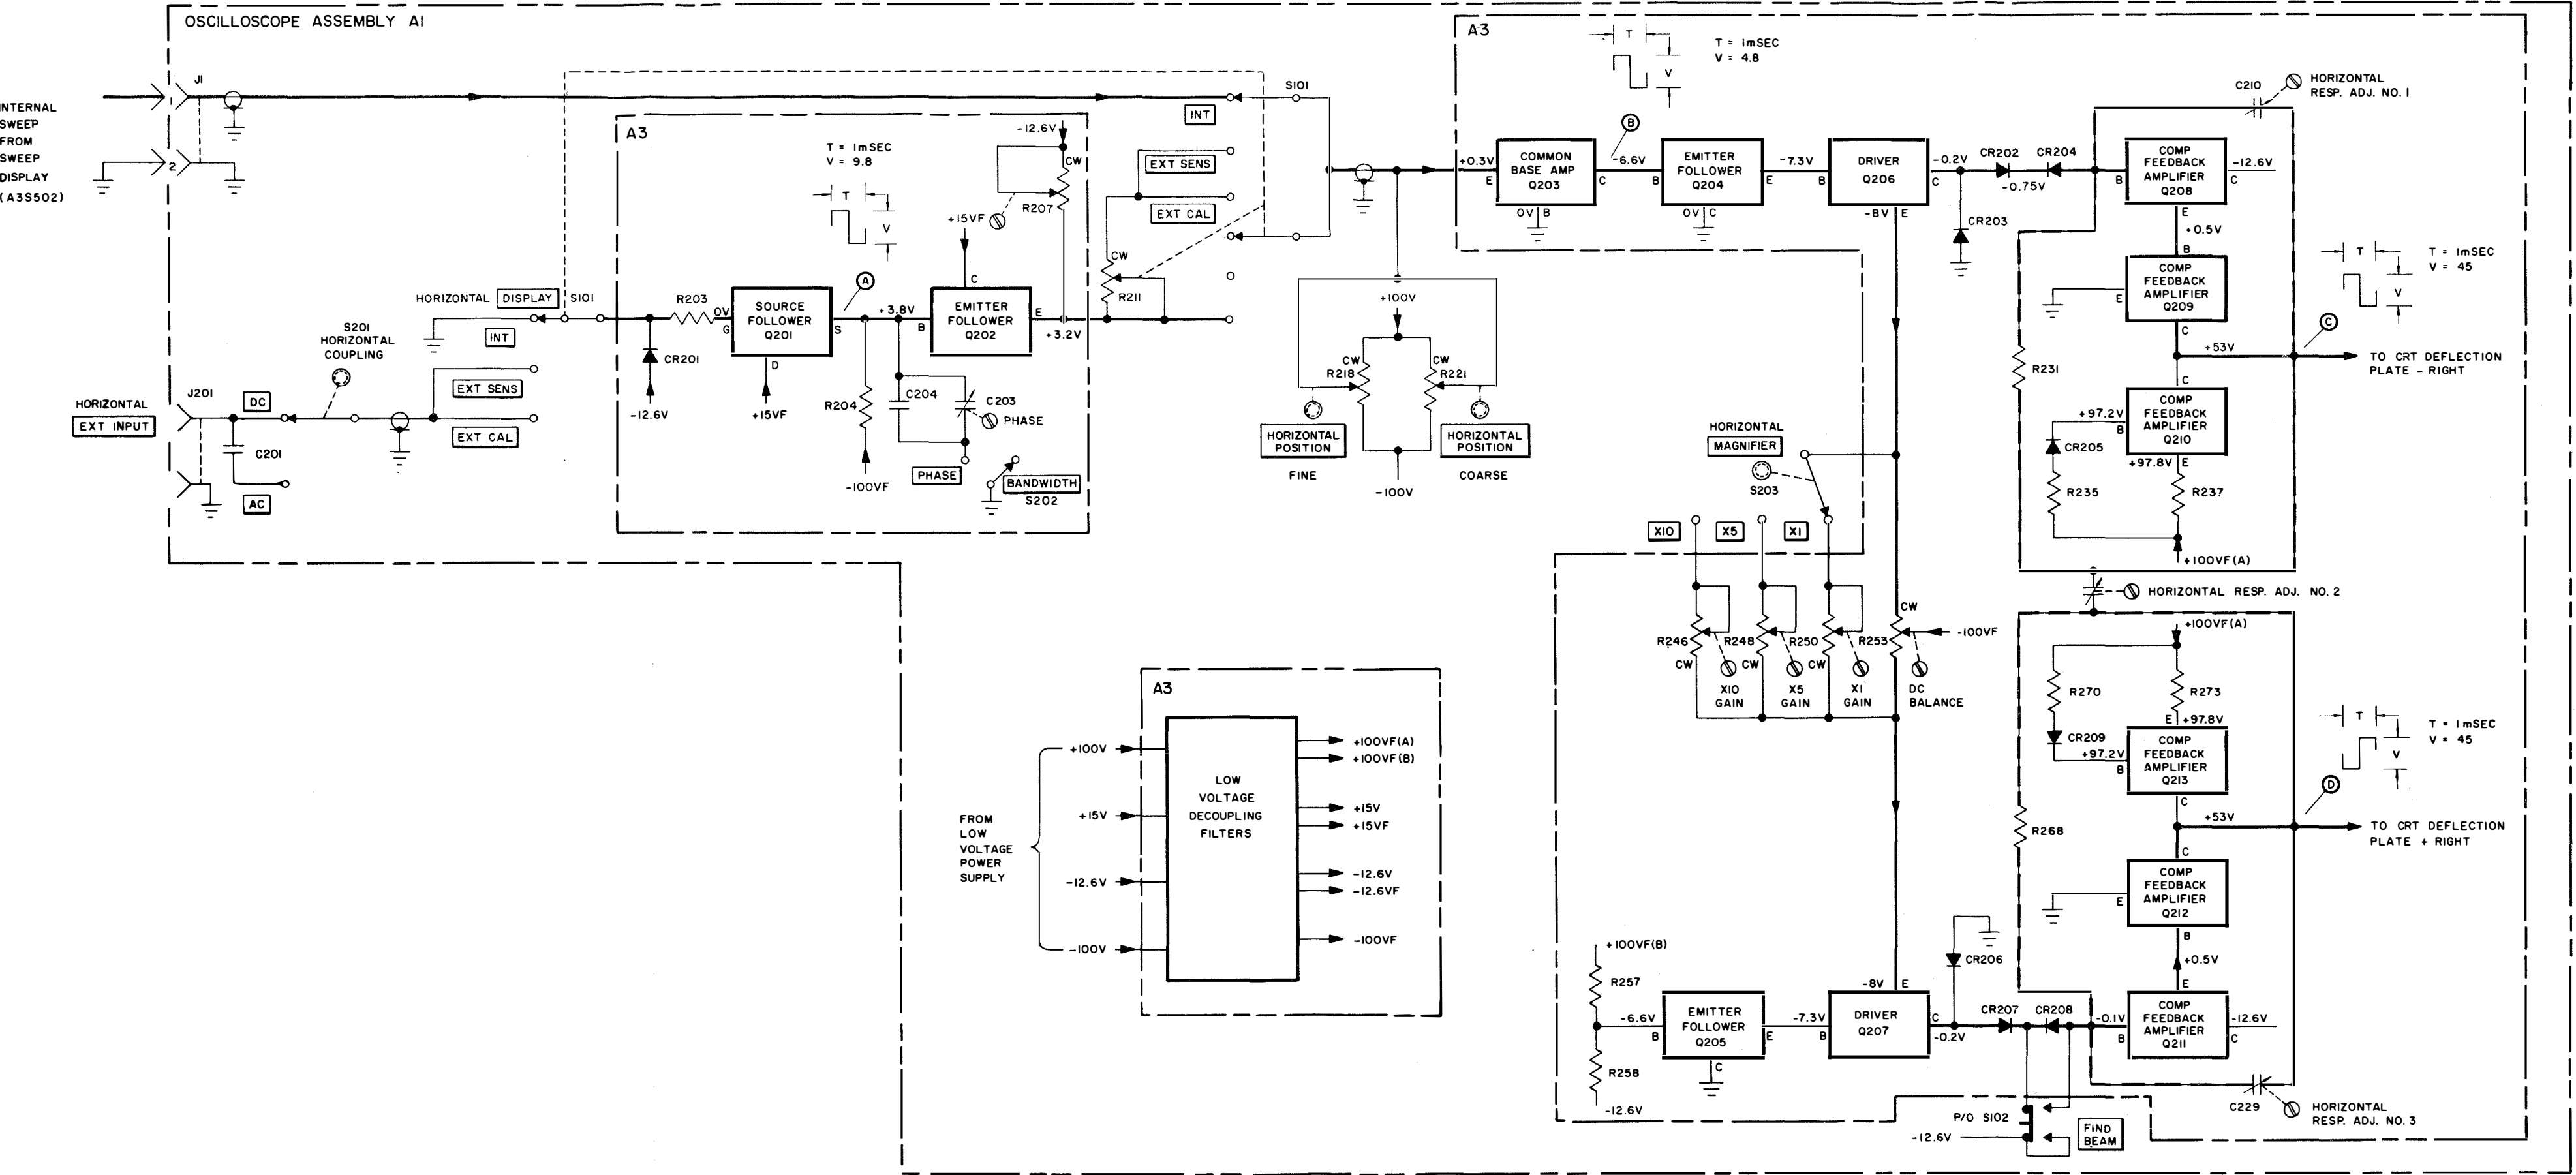

Figure 4-5. Horizontal Amplifier
a. HORIZONTAL AMPLIFIER FUNCTIONAL DESCRIPTION. - The input to the horizontal output amplifier (A1A3Q203 through A1A3Q213) is selected by horizontal DISPLAY switch A1S101. See figure 4-5. When A1S101 is set to the INT position the input to the preamplifier (A1A3Q201 through A1A3Q202) is grounded and the internal sweep signal from the time base and delay generator is applied to the horizontal output amplifier. When A1S101 is set to the EXT SENS or EXT CAL position, the internal sweep is removed from the horizontal output amplifier and the preamplifier output is applied to the horizontal output amplifier. The input preamplifier is connected to the horizontal EXT INPUT connector. When horizontal DISPLAY A1S101 is in the EXT SENS position, the output of the preamplifier is adjustable by rotating A1S101 between the EXT SENS and EXT CAL positions. In the EXT CAL position, A1R211 is shorted and the output amplitude of the preamplifier is determined only by input amplitude.
b. **HORIZONTAL AMPLIFIER TROUBLE SHOOTING.** - The trouble-shooting chart for the horizontal amplifier functional section is provided in table 4-5 and the servicing block diagram is shown in figure 4-5. A suspected trouble in the horizontal amplifier can sometimes be caused by the time base and delay generator. Before trouble shooting the horizontal amplifier, set the oscilloscope controls to obtain an internal sweep from the main time base generator (refer to Section 3) and observe the CRT. If a trace cannot be obtained, set the horizontal DISPLAY to EXT CAL and observe the CRT while rotating the
When it has been determined that the trouble is in the horizontal amplifier functional section, perform the procedures in table 4-5 to isolate the defective component. The horizontal section contains a decoupling filter network (see figure 4-5) that should also be checked while trouble shooting this section as a low voltage caused by a defective filter coil or capacitor would affect the operation of this section. When the defective component is located and the repair completed, perform the horizontal amplifier adjustment procedures in Section 5 to return this section to a functional condition.
c. **USEFUL ILLUSTRATIONS.** - Illustrations useful in maintaining this functional section are: Figures 4-5, 5-15, and 5-30.
If spot will not move horizontally, check transistors A1A3Q203 through A1A3Q207. Also check the decoupling filter network (see figure 4-5).